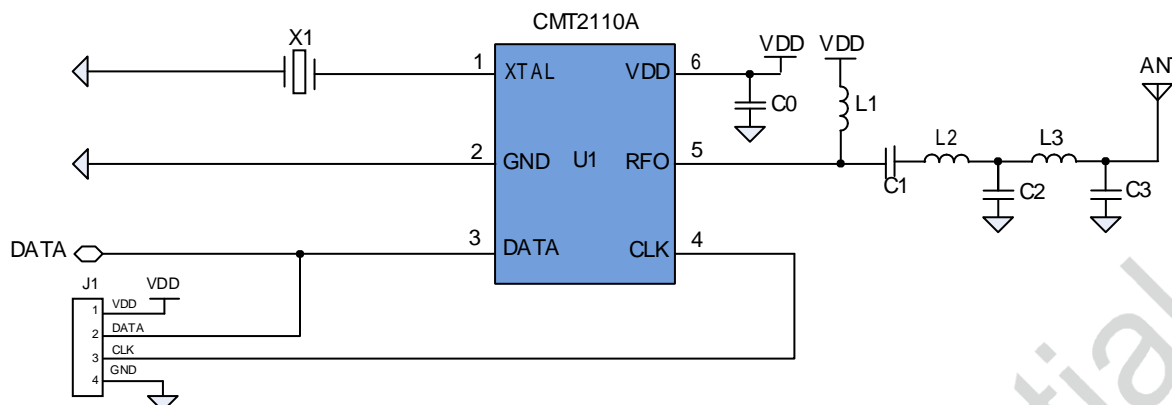

Figure 10. FCC/ETSI Compliant Application Schematic
- [3]. The harmonics output is measured with the application shown as Figure 10.